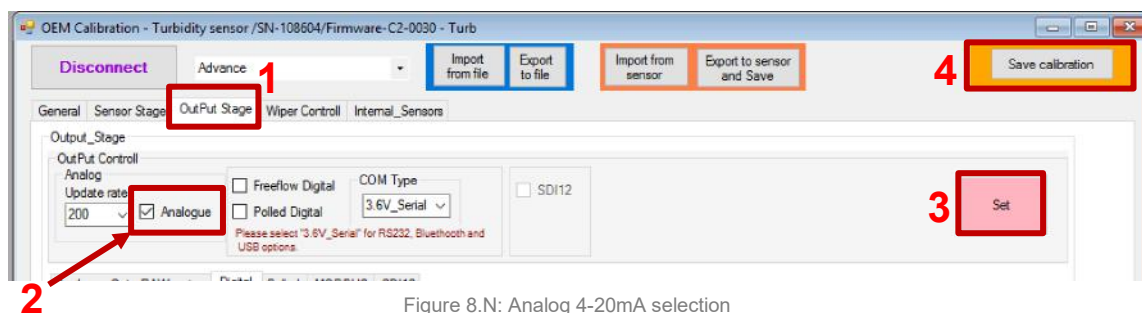

Figure 8.N: Analog 4-20mA selection
- Select “OutPut Stage” option (Figure 8.N: #1).